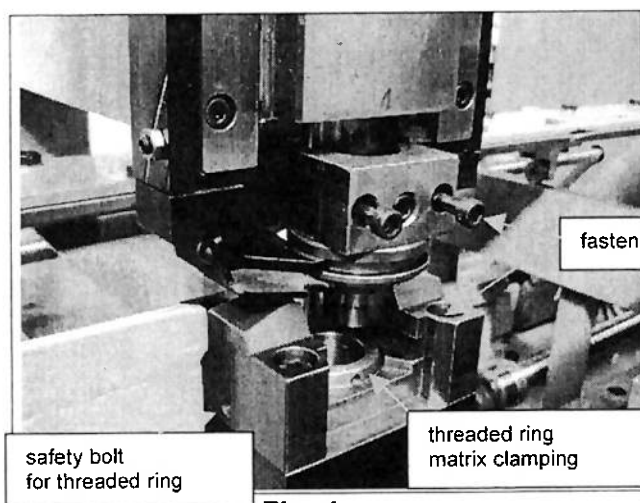

Fig. 4
6. Then carefully mount the unit to the die guidance, seeing to the correct position of the annular slot of wiper in the holder. Fig. 4
1. Loosen the safety bolt for the threaded ring. Fig. 4
2. Turn the threaded ring for clamping of matrix downwards for approx 1mm. Fig. 4